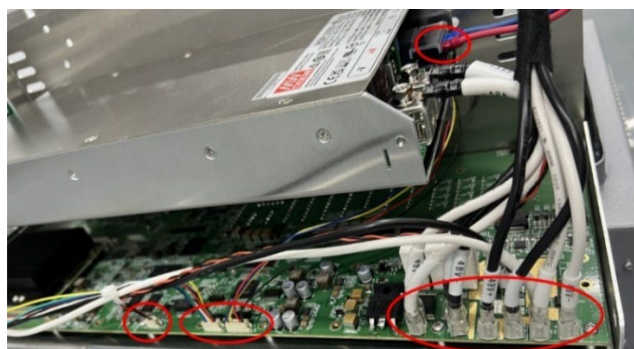

Figure 3-31 Cable connection
- Install the power supply back in place and connect all disconnected cables as shown in Figure 3-31: